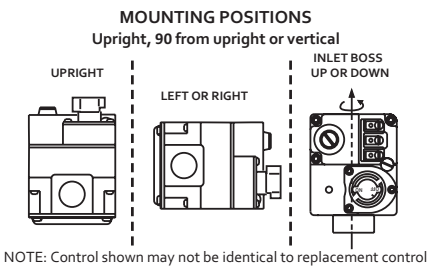

Figure 1. Gas Valve Mounting Positions
3. The control may be installed in any orientation **except upside down** (see fig. 1). The arrow on the valve indicates the direction of gas flow through the control.